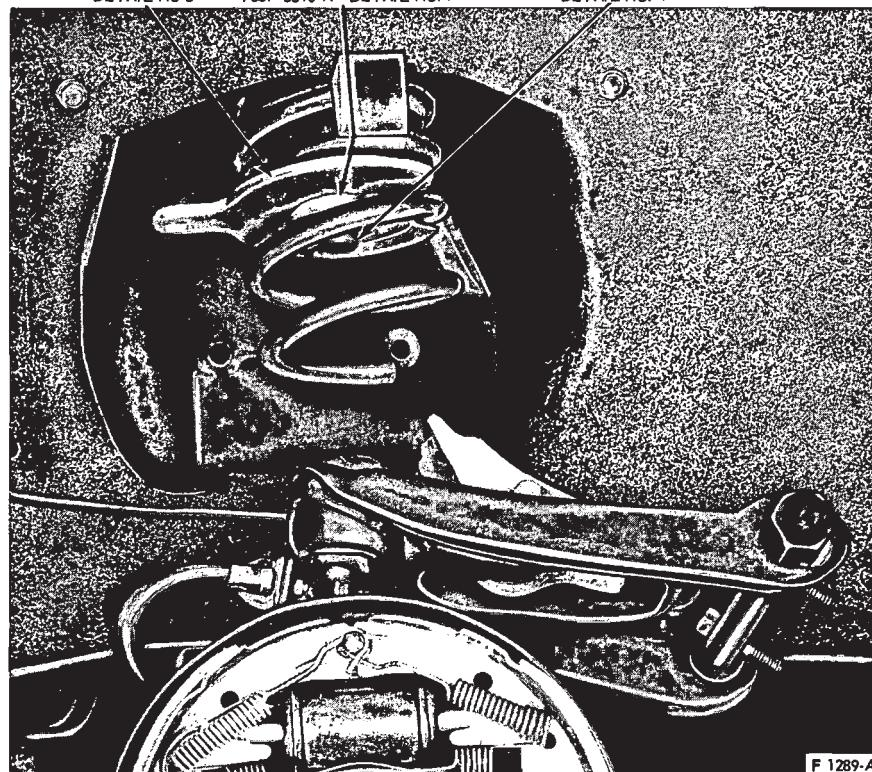

FIG. 12—Compressing Spring—Lower View—Montego, Falcon, Fairlane and Maverick
6. Remove 2 upper arm-to-spring tower attaching nuts and swing the upper arm outboard from the spring tower (Fig. 12).